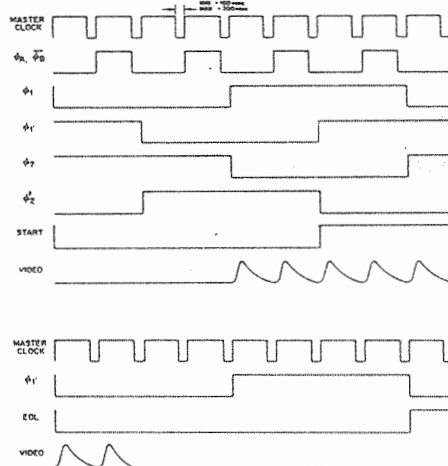
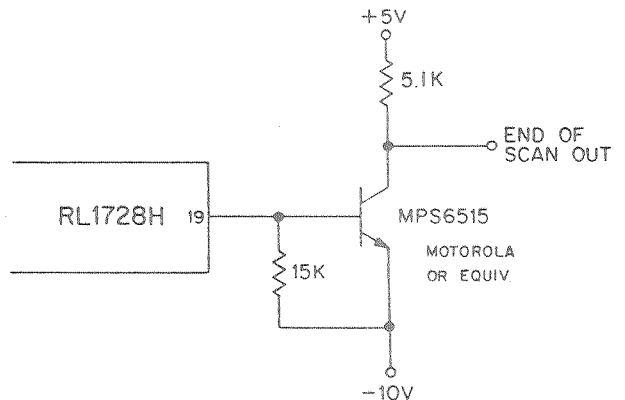

Figure 6. Timing Diagram for "H" Series Devices.
Figure 11. Suggested end of scan output circuit.
Six clock phases are required to drive the "H" series devices and a properly timed start pulse is required to initiate each scan. Figure 6 shows the proper timing of the input clock and start signals. Note that ϕ_1 and ϕ_2 , and ϕ'_1 and ϕ'_2 are two pairs of complementary square waves. The ϕ_A and ϕ_B clocks are complements, but are not square waves. Diodes are sampled on the negative going transitions of ϕ_1 , ϕ_B , ϕ'_1 , ϕ_B , ϕ_2 , ϕ_B , ϕ'_2 , ϕ_B , ϕ_1 . The start pulse timing is non-critical except that it must be negative for one positive going transition of ϕ_1 and the following positive going transition of ϕ'_1 . The number of master clock periods n between start pulses is arbitrary except that it must be equal to or greater than
The video output of the "H" series devices is a train of N charge pulses flowing onto the video line capacitance during each scan with timing as shown in Figure 6. Superimposed on the video signal are periodic switching transients which are introduced by the multiplex circuitry. Since these same transients also appear without the signal on the dummy video line, the two outputs may be amplified differentially to obtain a clean video signal. Two types of amplifier circuits are in common use. These are: (1) a simple differential current amplifier; and (2) a video line integration, sample-and-hold circuit. The former has a pulse output while the latter has a boxcar output with greater signal to noise ratio.
An end-of-scan output pulse is provided when the last two diodes are sampled. This end-of-scan output is provided primarily for test purposes and if not in use it should be shorted externally to the +5 volt supply. In those cases where the end of scan pulse is used, the voltage excursion of the end-of-scan pin should be minimized by using a circuit such as that shown in Fig.11. The timing of the end-of-scan output is shown in Fig. 6.